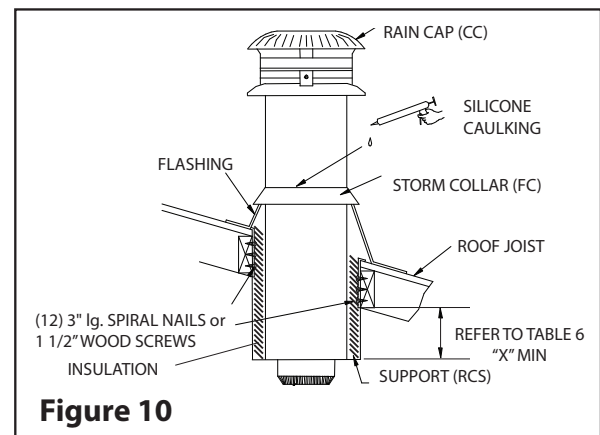

Figure 10
Step 3: Use a level to ensure the support is vertical. If the support extends above the roof, cut it flush with the top of the roof. Attach the support to the framed opening using (12)-3" spiral nails or #8 x 1 1/2" wood screws (see **Figure 10**).